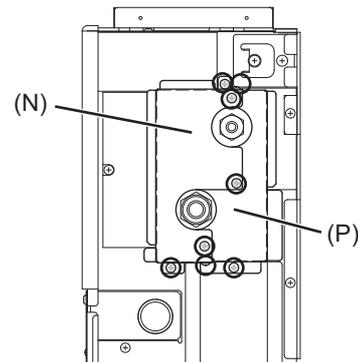

Fig. 16
- (1) Remove the eight fixing screws on the cover 1 (N) and cover 2 (P) to remove them. (Fig. 16)